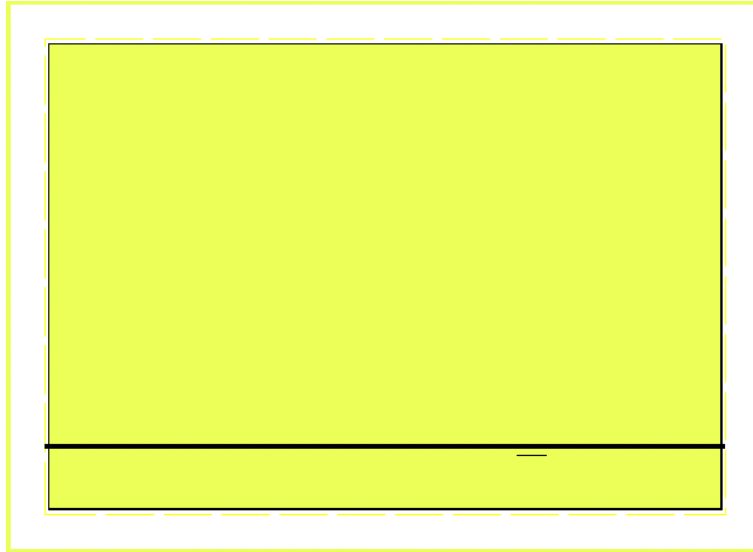

Figure 4-95
20. Select *Modify/Change*, select the line you just placed and change the "Line Width" to **4**. Don't worry if it appears thicker than the border rectangle. Go to *Draw/Text* and type in **#CONA#**. Select a font, set the size to **13.33ft (4m)** and click on "Left" justification. Place the text in right side area of the bottom section. See Figure 4-95. #CONA# is the key word that causes IRRICAD to insert the company name into the design. Many more dividing lines and text can be added to the template.